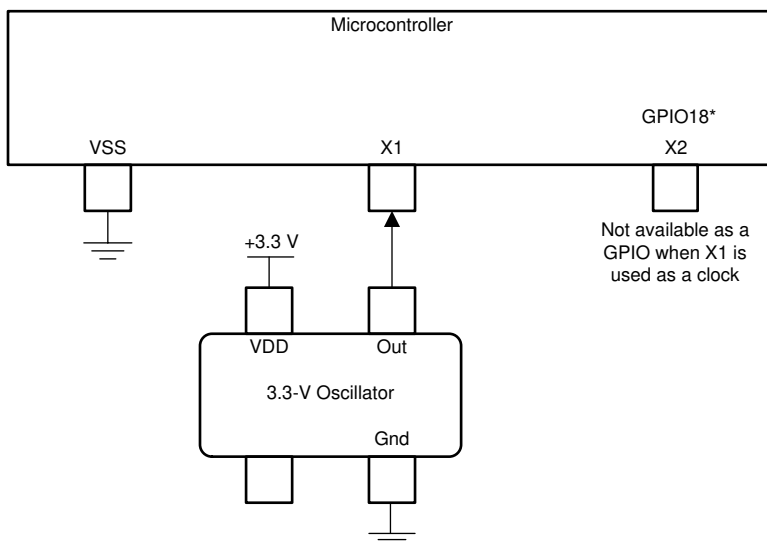

**Figure 7-17. Single-ended 3.3-V External Clock**
- A single-ended 3.3-V external clock. The clock signal should be connected to X1, as shown in Figure 7-17, with the XTALCR.SE bit set to 1.